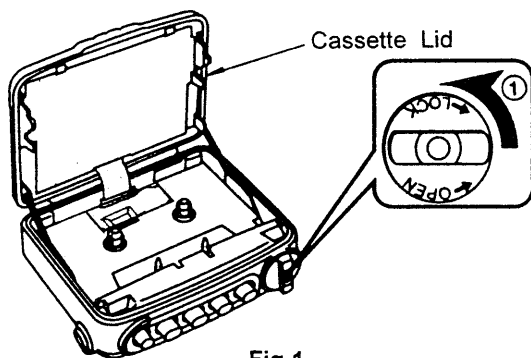

Fig.1
- Open the cassette Lid in the direction of arrow of arrow ①. (See Fig.1).